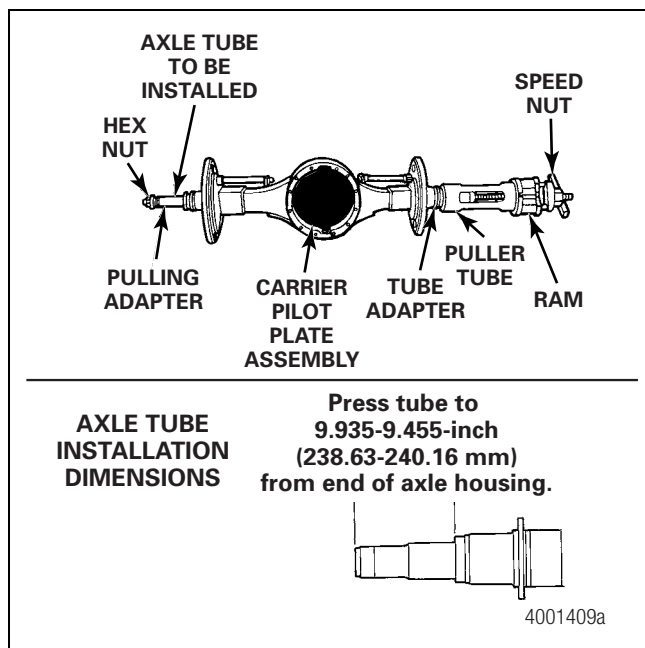

Figure 5.18
5. Install the puller tube onto the tube adapter. Figure 5.18.
6. Install the hydraulic ram onto the puller tube. Install the speed nut onto the puller screw. Tighten the nut to secure the ram and the tube to the axle housing. Figure 5.18.
8. Connect the hydraulic ram to a hydraulic pump. Figure 5.18.
9. Apply pressure to install the axle tube into the housing. Press the axle tube into the housing until the end of the tube is 9.935-9.455-inches (238.63-240.16 mm) from the end of the axle housing. Figure 5.18.